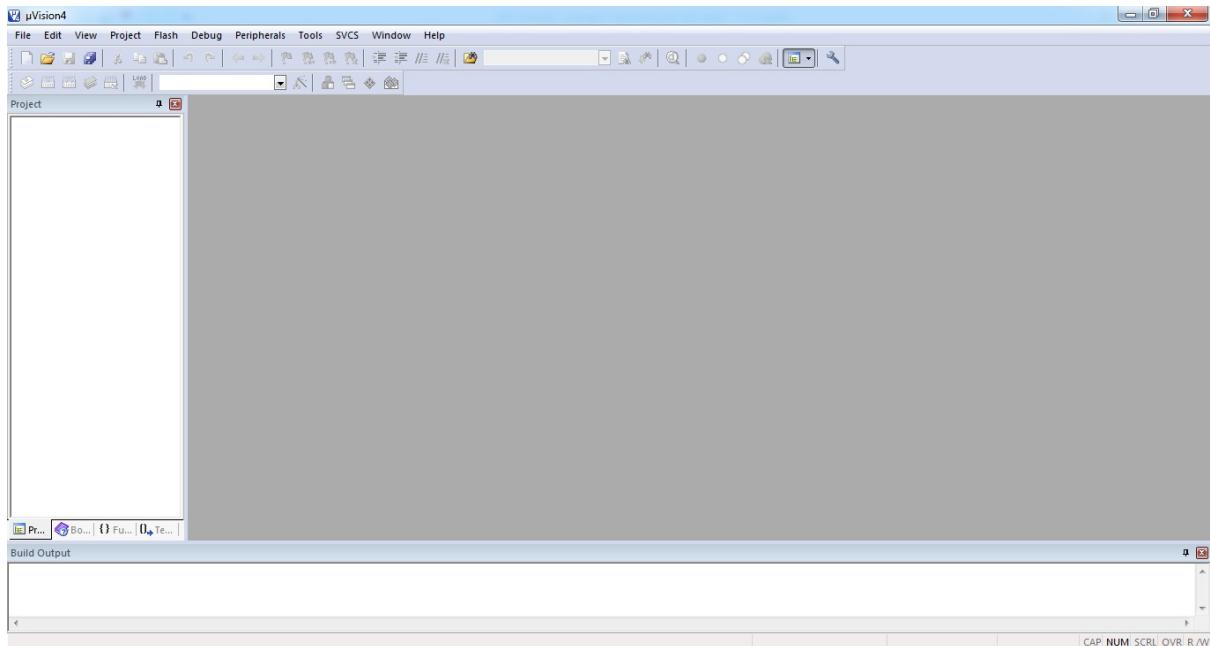

Figure 1.7: Keil interface on start
1. Run the software by clicking the icon on desktop, if available, or by clicking on **Start** → **All Programs** → **Keil μ Vision**. An interface similar to one shown in Figure 1.7 will open.